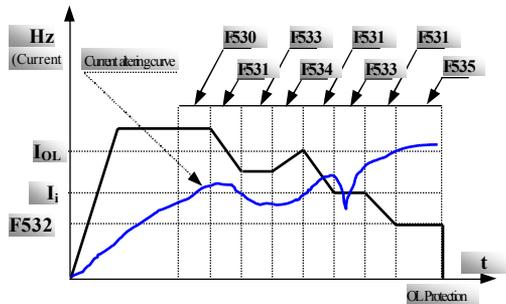

Fig 9-3 Stalling Adjusting
- **Protection Time of Stalling Adjusting (F535):** When Output Frequency drops to the “Lower Frequency Limit of Stalling Adjusting” during “Stalling Adjusting”, and if stalling still continues after waiting for a certain period of time (setting value of F535), inverter will enter “Overload” (OL) protection state. This period of time shall be the protection time of Stalling Adjusting.
- Fig 9-3 indicates the process of Stalling Adjusting: